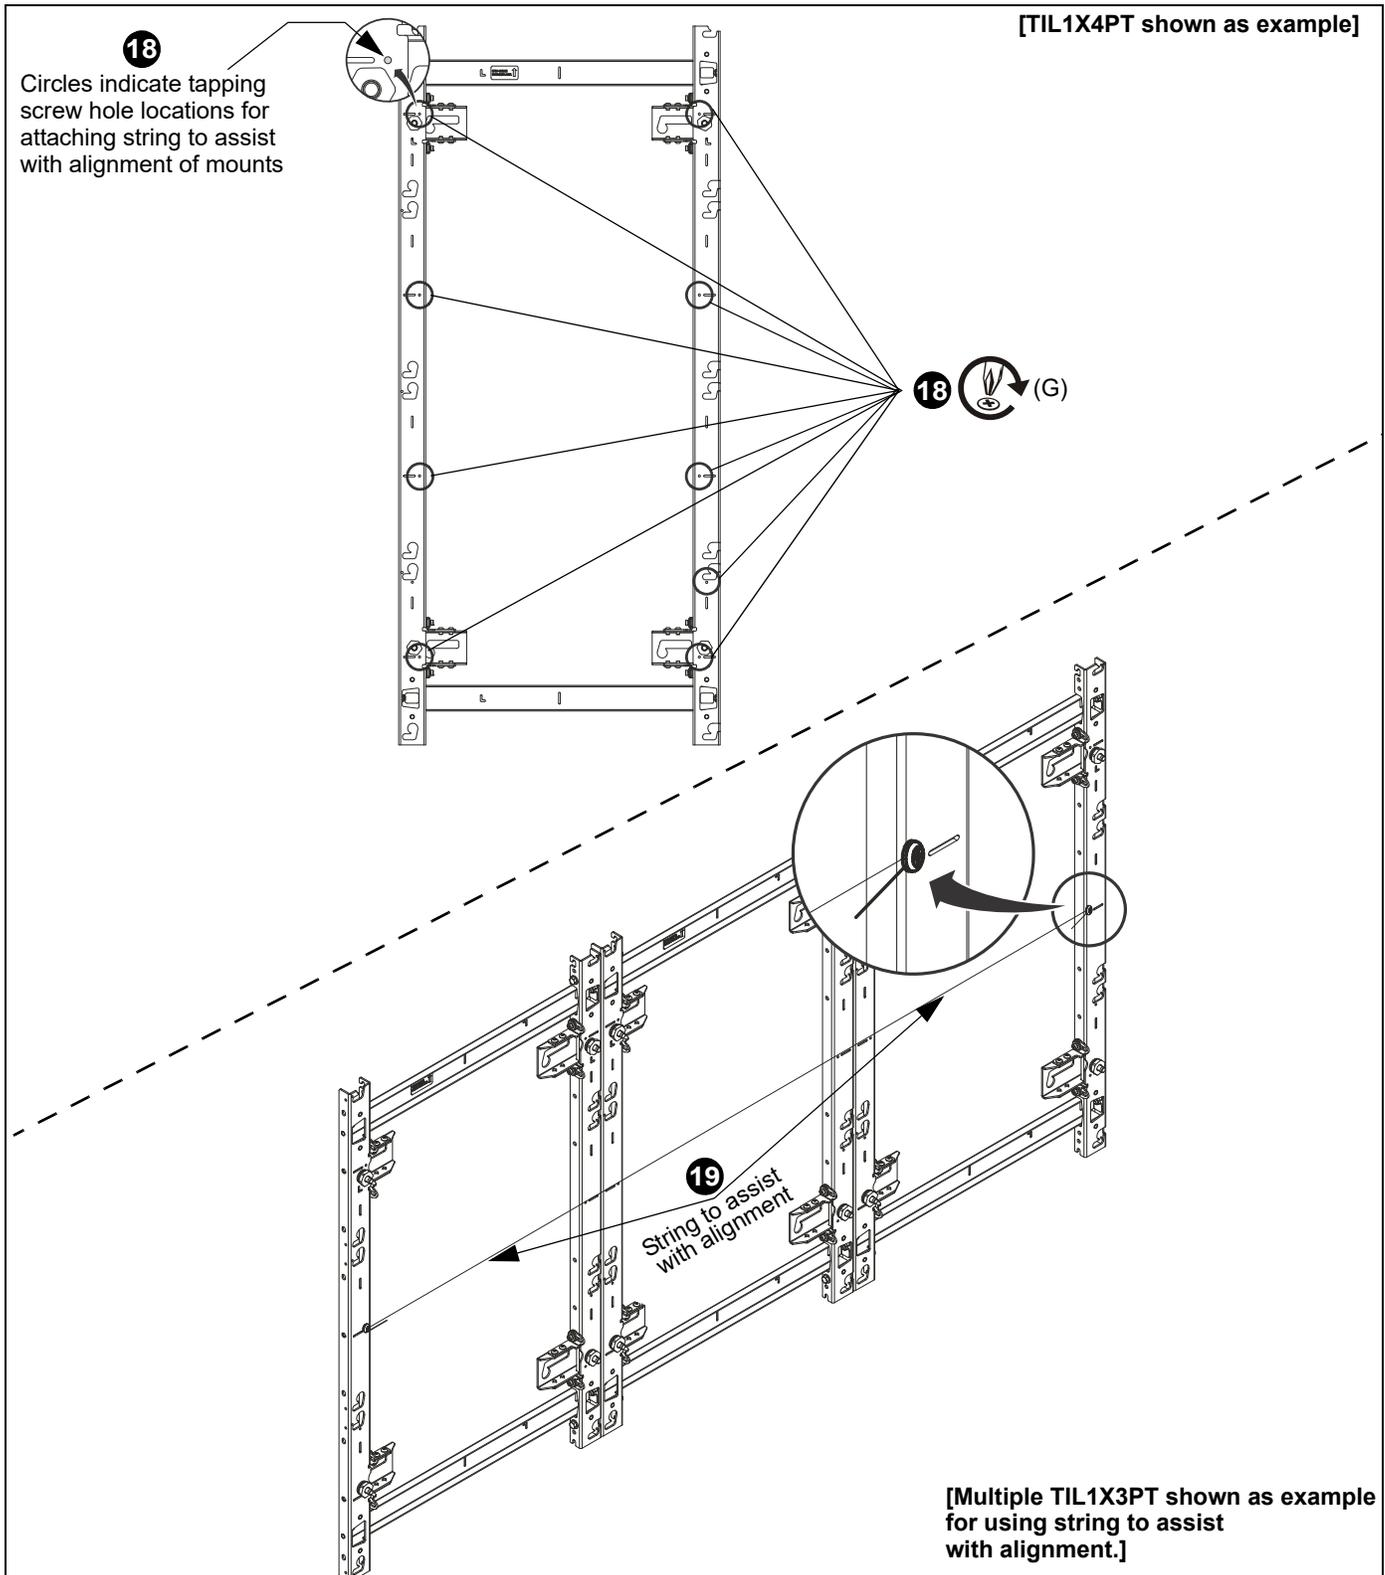

Figure 14
17. Using a drill driver makes installation of the tapping screws (C) easier.
18. Install the remaining #10 x 1/2" self-tapping screws (G) on the mount, as necessary, to assist in centering the LED housings. (See Figure 14)
19. Run a string between the self-tapping screws installed in **Step 18** to assist with alignment across long sections of mounts. (See Figure 14)